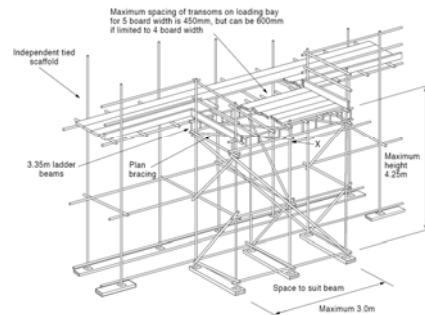

Figure 23. Typical loading bay for 10 kN/m²
- Note (fig 23) max transom spacing is 450mm for 5 board wide or 600mm for 4 board wide. Some designs specify transom clusters.